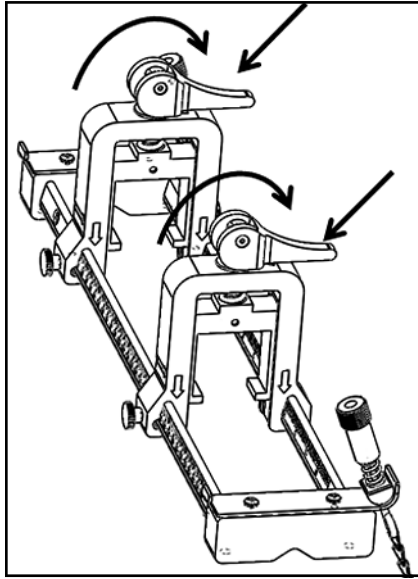

Figure 19: Loaded Cams
4. Move both cams to the loaded position, so that the clamp holders rest in their furthest radial position from the pipe (see Figure 19 below).